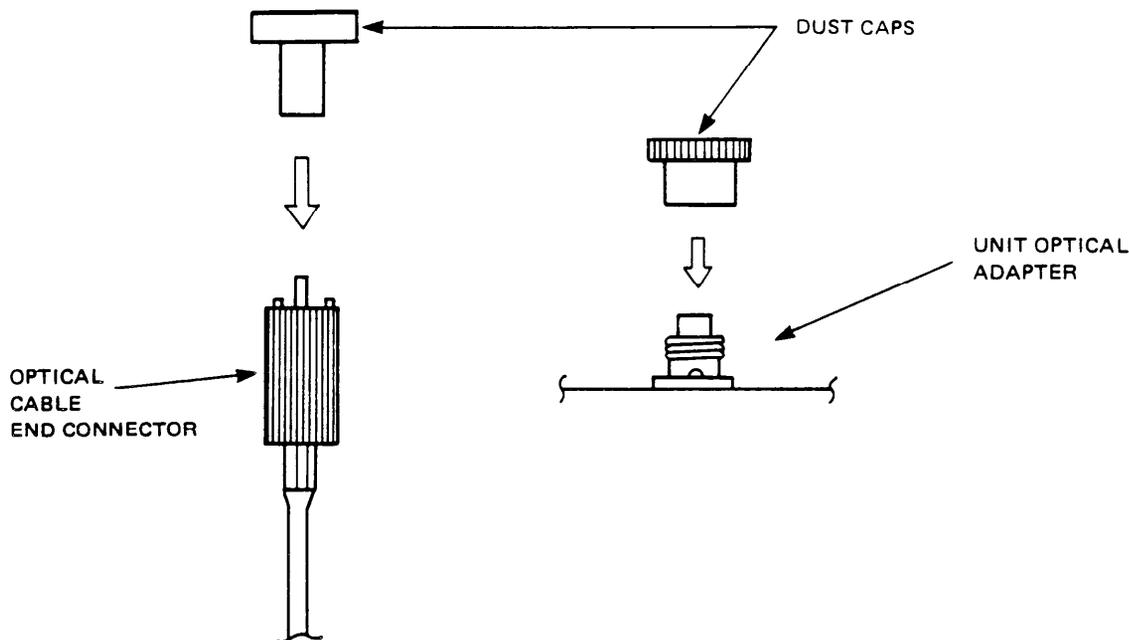

Figure 4-1 Installing Protective Dust Caps
4.02 Due to the delicate nature of optical fiber, care should always be taken when connecting and disconnecting the optical fiber cables or when installing and removing any unit located near the optical fiber cables. If cables are to remain disconnected for any length of time, install dust caps on the optical fiber cable connectors and unit optical adapters as shown in Figure 4-1.